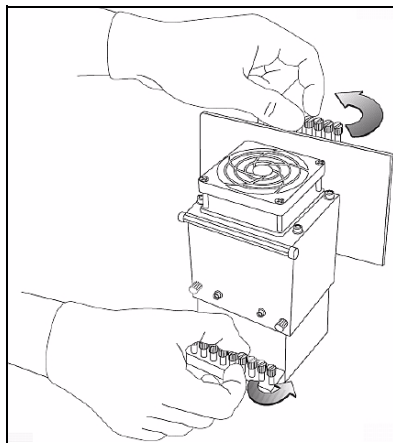

Figure 7-61: Releasing the locking screws
18. Tighten the upper and lower screws that secure the print head in the print block (see figure 7-61 on page 42).